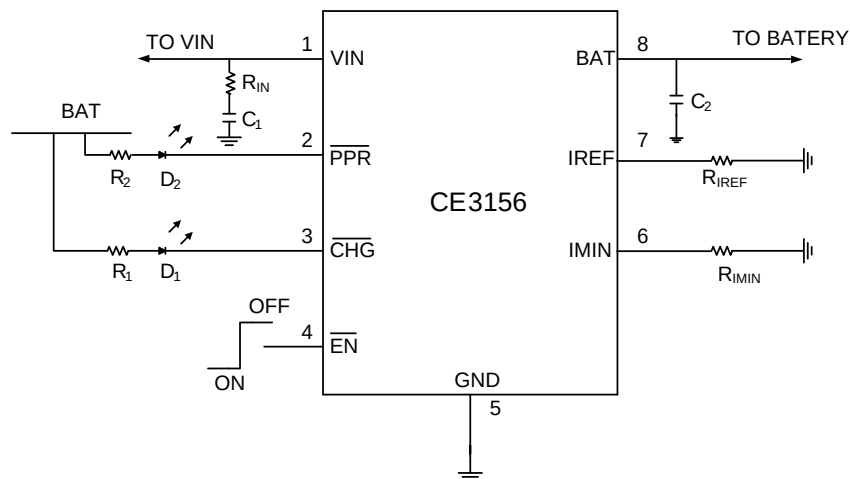
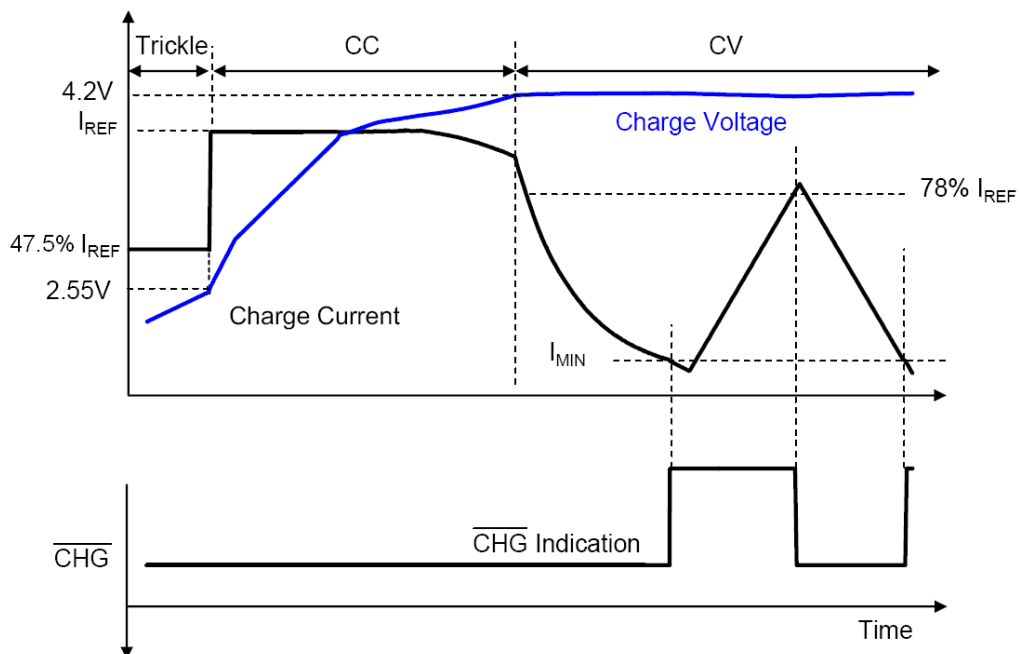

Figure1 Typical Application Circuit Interfacing to Indication LEDs
Figure3 Typical Charge Profile
COMPONENT DESCRIPTION FOR Figure1
The CE3156 charges a Li-Ion battery using a CC/CV profile. The constant current I_{REF} is set with the external resistor R_{IREF} (see Figure 1) and the constant voltage is fixed at 4.2V or 4.35V. If the battery voltage is below a typical 2.55V, or
4.2V or 4.35V. When the battery voltage reaches 4.2V or 4.35V, the charger enters a CV mode and regulates the battery voltage at 4.2V or 4.35V to fully charge the battery without the risk of over charge. Upon reaching an full-of-charge (FOC) current, the charger indicates the charge completion with the $\overline{\text{CHG}}$ pin, but the charger continues to output the 4.2V or 4.35V voltage. Figure 3 shows the typical charge waveforms after the power is on.
The FOC current level I_{MIN} is programmable with the external resistor R_{IMIN} (see Figure 1). The $\overline{\text{CHG}}$ pin turns to low when the trickle charge starts and rises to high impedance at the FOC. After the FOC is reached, the charge current has to rise to typically 78% of I_{REF} for the $\overline{\text{CHG}}$ pin to turn on again, as shown in Figure 3. The current surge after FOC can be caused by a load connected to the battery.
The $\overline{\text{PPR}}$ pin is an open-drain output to indicate the presence of the AC adapter. Whenever the input voltage is higher than the POR threshold, the $\overline{\text{PPR}}$ pin turns on the internal open-drain MOSFET to indicate a logic low signal, independent on the $\overline{\text{EN}}$ pin input. When the internal open-drain FET is turned off, the $\overline{\text{PPR}}$ pin leaks less than 20μA current. When turned on, the $\overline{\text{PPR}}$ pin is able to sink at least 15mA current under all operating conditions. The $\overline{\text{PPR}}$ pin can be used to drive an LED (see Figure 1) or to interface with a micro-processor.
IMIN is the end of charge current when $\overline{\text{CHG}}$ indicates a full of charge condition. All current out of the CE3156 BAT pin should be counted into IMIN, including load current and the indication LED currents. As illustrated in Figure 3, the CE3156 continues to supply current unless it is disabled by $\overline{\text{EN}}$ pulled high, regardless of the status of $\overline{\text{CHG}}$ pin. When charge current ever goes lower than IMIN, $\overline{\text{CHG}}$ pin stays high impedance until the charge current goes higher than 78% of IREF, which is another factor to consider in design of IREF, IREF should be high enough to so that 78% of IREF is higher than the current that is designed not to initiate $\overline{\text{CHG}}$ indication, while is low enough to assure the power source could deliver higher than 78% of IREF to initiate $\overline{\text{CHG}}$ indication.